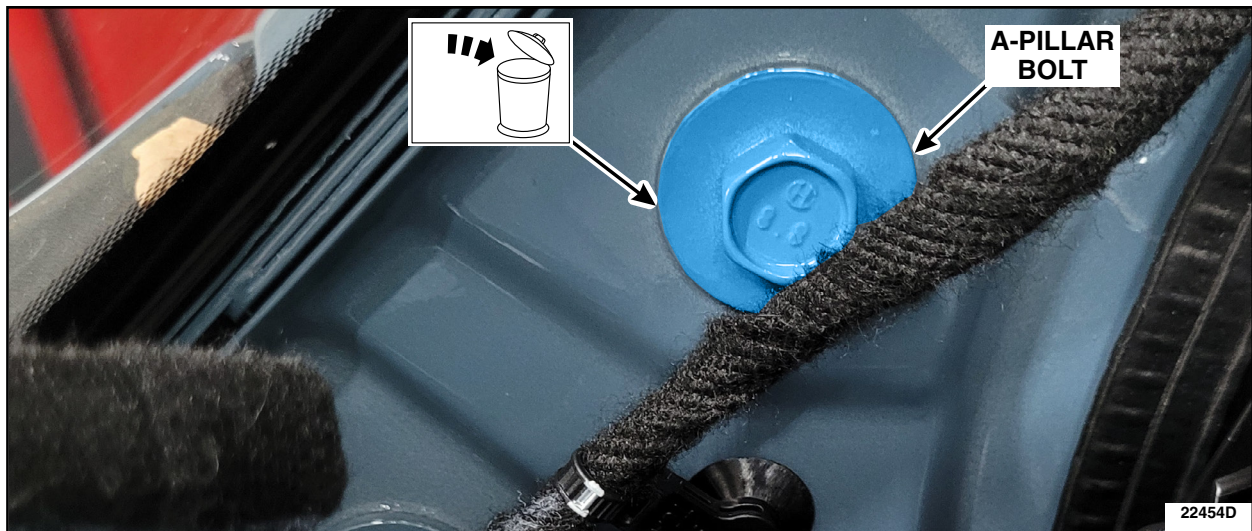

FIGURE 23
25. On both sides of the vehicle remove and discard the A-Pillar bolt. See Figure 23.